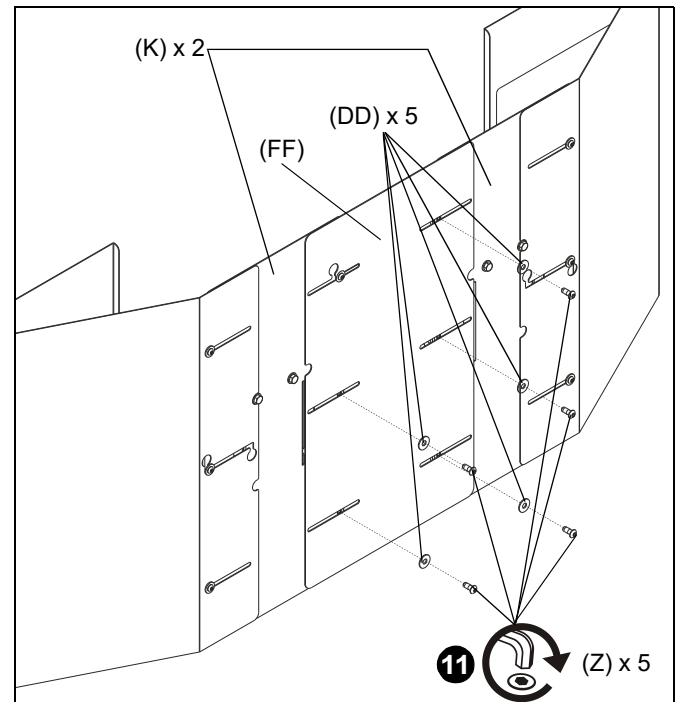

Figure 16
11. Use five 1/4-20 x 5/8" button head cap screws (Z) and five 1/4" washers (DD) to secure x-large adapter (FF) to two center wind shields (K). (See Figure 16)
12. Tighten all six screws (Z).